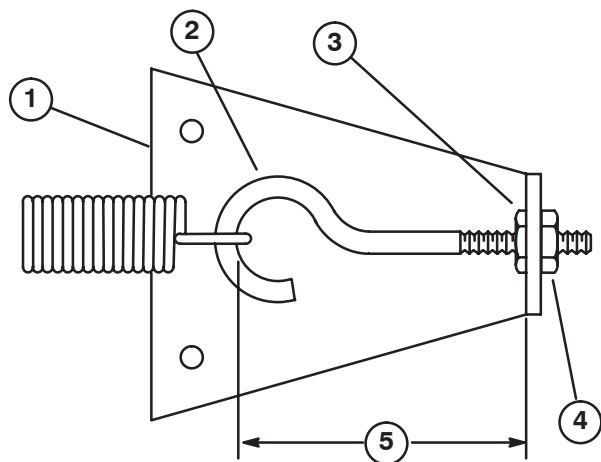

Figure 65
3. Loosen outer hex nut securing eye bolt to spring anchor plate (Fig. 65).
4. Rotate clockwise until distance between inside of eye bolt loop and inside of spring anchor plate is shortened 1/8 in., as shown in Figure 65. Tighten hex nut.